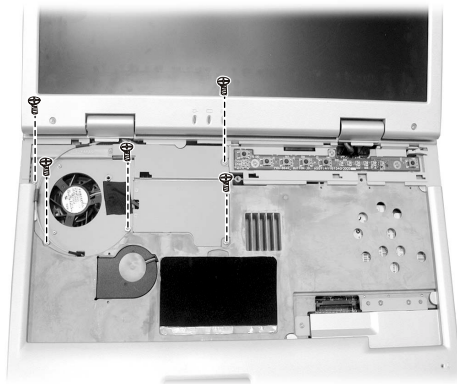

Figure 2-6 Remove five screws
3. Remove five screws fastening the plate Assy. (Figure 2-6)